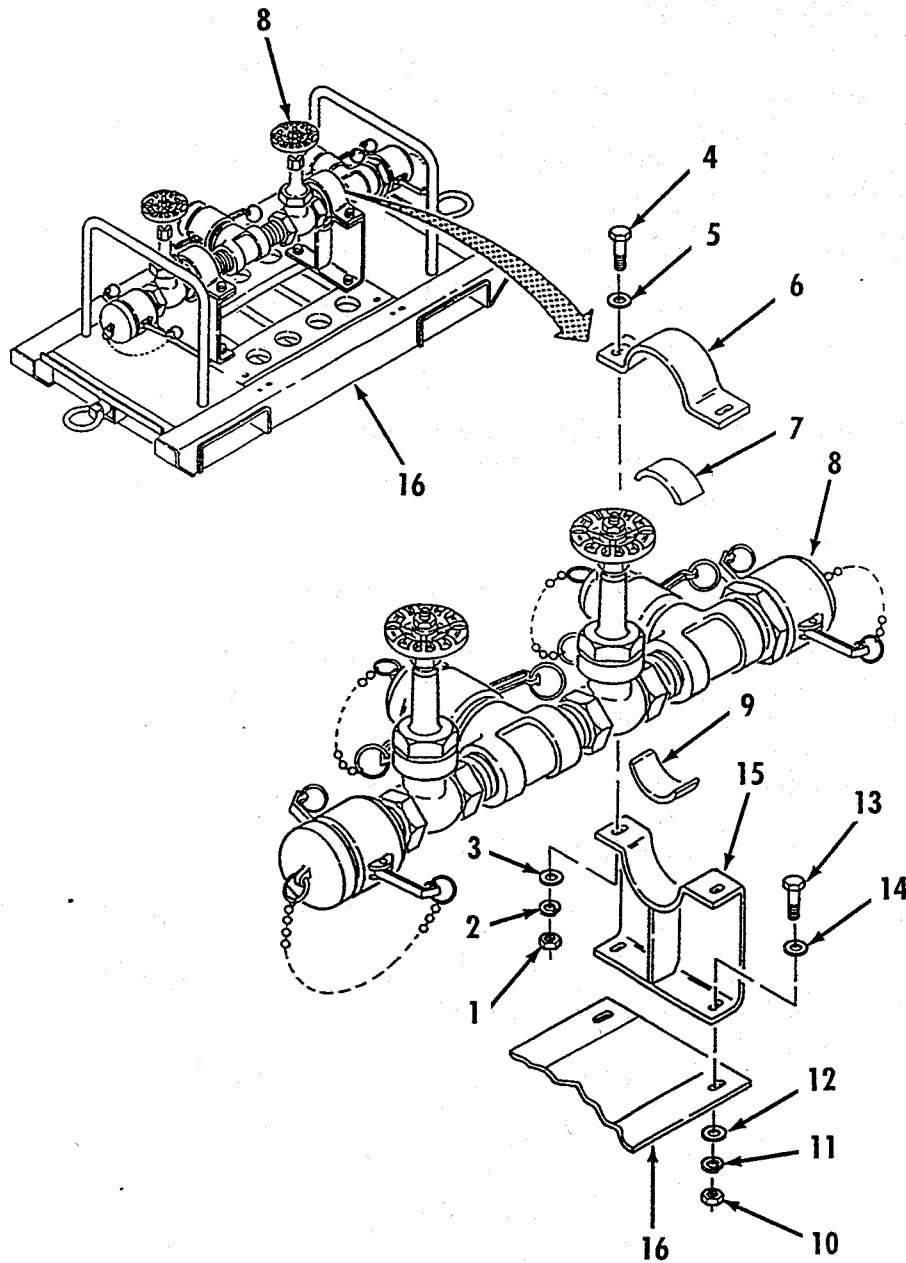

Figure 4-18. Fueling Manifold Replacement.
- a. Removal. Refer to figure 4-18.
- (1) Remove two nuts (1), lockwashers (2), flat washers (3) cap screws (4) and flat washers (5).
- (2) Remove strap (6) from fueling manifold assembly (8).
- (3) Remove foam (7) from strap (6).
- (4) Repeat steps (1) through (3) for other strap (6).
- (5) Using two personnel, remove fueling manifold assembly (8) from skid (16).
- (6) Remove two nuts (10), lockwashers (11), flat washers (12), cap screws (13) and flat washer (14).
- (7) Separate bracket (15) from skid (16).
- (8) Remove foam (9) from bracket (15).
- (9) Repeat steps (6), (7) and (8) for remaining bracket (15).
- (15) Install tee (14) on nipple (15).
- (16) Install female coupling half (12) on tee (14).
- (17) Install gasket (11) in female coupling half (12).
- (18) Install dust plug (10) in female coupling half (12).
- (19) Install split rings (7 and 8) and chain (9).
- (20) Install male coupling half (13) on tee (14).
- (21) Install gasket (5) in dust cap (6).
- (22) Connect dust cap (6) to male coupling half (13).
- (23) Install split rings (2 and 3) and chain (4).
- (24) Remove manifold assembly (1) from vise.
f. Installation. Refer to figure 4-18.
- (1) Apply foam (9) to saddle of bracket (15).
- (2) Position bracket (15) on skid (16).
- (3) Install two flat washers (14) cap screws (13), flat washers (12), lockwashers (11) and nuts (10).
- (4) Repeat steps (1), (2), and (3) for other bracket (15).
- (5) Using two personnel, position fueling manifold assembly (8) on skid (16).
- (6) Apply foam (7) to saddle of strap (6)
- (7) Aline mounting holes in strap (6) with bracket (15).
- (8) Install two flat washers (5), cap screws (4), flat washers (3), lockwashers (2) and nuts (1).
- (9) Repeat steps (6), (7), and (8) for remaining strap (6).